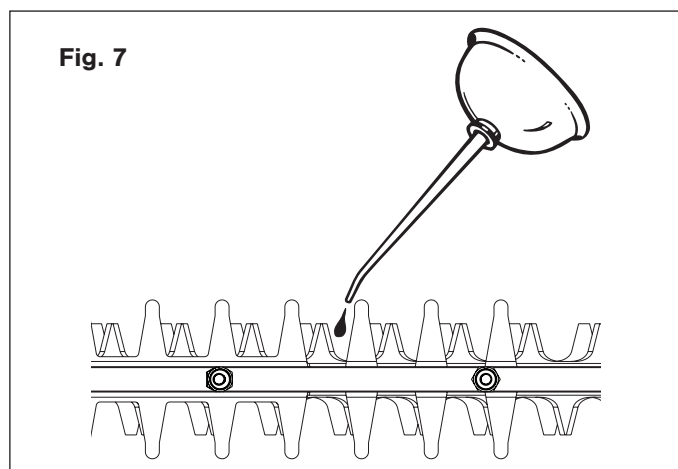

Fig. 7
2. Lay the hedge trimmer on a flat surface. Apply any lightweight machine oil along the edge of the top blade (Fig. 7).